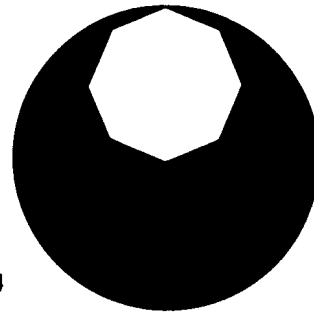

Fig. 44
Adjustment as for incident-light bright ground illumination, but the aperture iris diaphragm is closed further than normally with lever (2). Then de-center the aperture diaphragm with the knob (3) to steep-oblique internal illumination until the desired relief effect is obtained. The optimum adjustment has been reached when the rear lens of the objective (seen with the Bertrand lens) is illuminated as shown in Fig. 44. Up to objective 5,5/0,15 the knurled nut (4) of the illumination lens for the aperture-iris diaphragm is against its lower stop; with higher power objectives, i.e. from 11/0,25, it is in the central position.